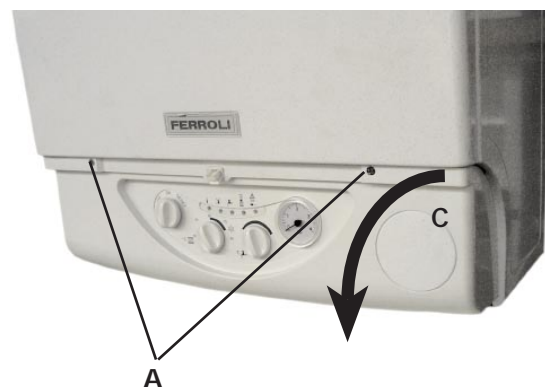

Fig. 31
### 7.03 To lower the control panel (fig. 31)
- Remove the two fixing screw (fig. 31) "A"